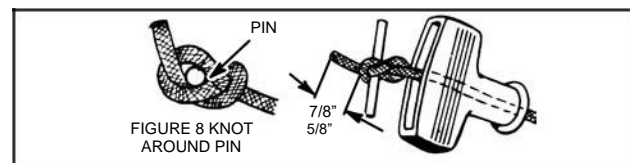
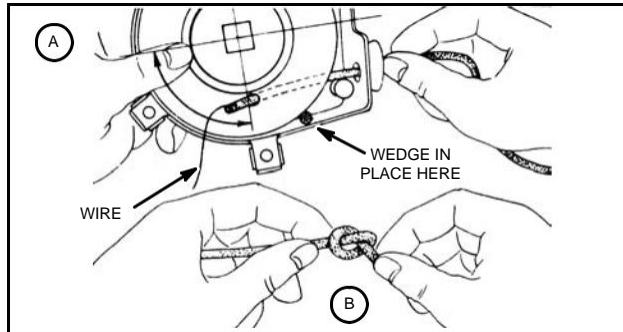

Fig. 593 – TYING KNOT ON STARTER HANDLE PIN
Fig. 594 – INSTALL ROPE IN PULLEY AND TIE KNOT
13. When replacing rope in handle tie a figure eight knot around pin with about a 3/4" end exposed. Pull pin into slot of handle, Fig. 593. Wind a thin piece of wire around other end of rope, pass through eyelet of case and between flanges of pulley. Select the nearest hole that comes within arc indicated by arrows in Fig. 594, Fig. A. Slip the wire and rope through this hole. It is permissible to back pulley off not more than 1/4 turn to bring hole in most favorable position.